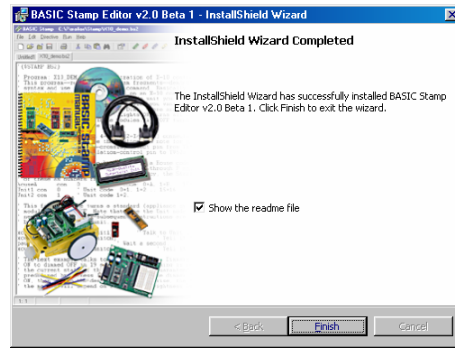

Figure 1-21
- √ When the InstallShield Wizard window tells you “InstallShield Wizard Completed”, as shown in Figure 1-21, click *Finish*.